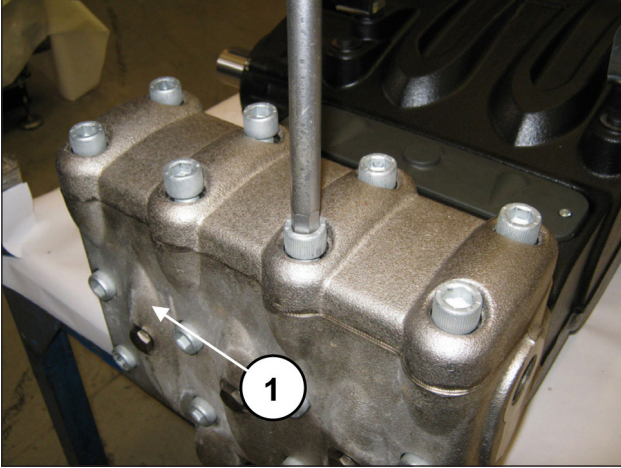
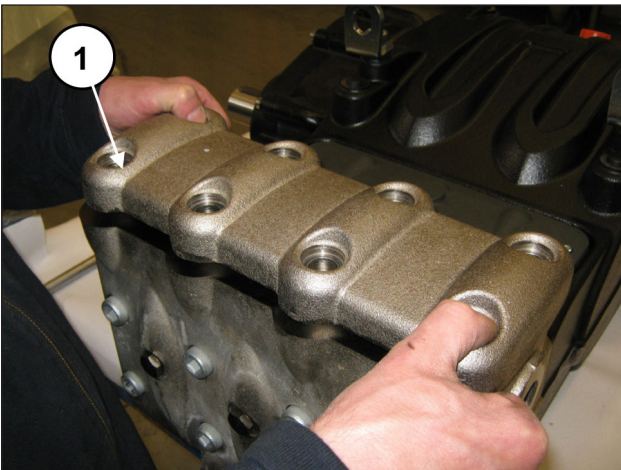

Fig. 94
Fig. 95
Unscrew the 8 M16x55 screws of the valve cover (pos. ①, Fig. 94) and remove the cover (pos. ①, Fig. 95).